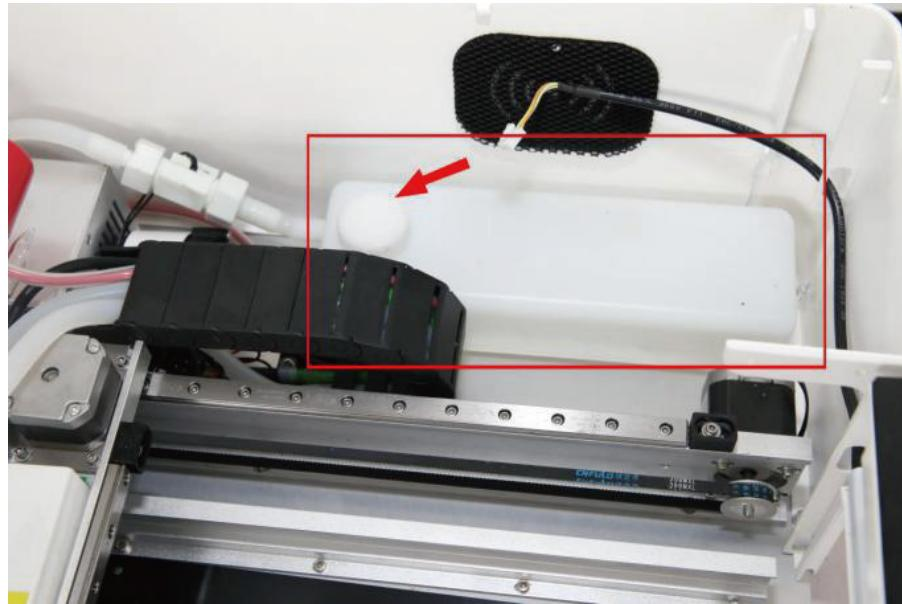

Figure26
② Evacuate the water in the water tank (Figure 26)